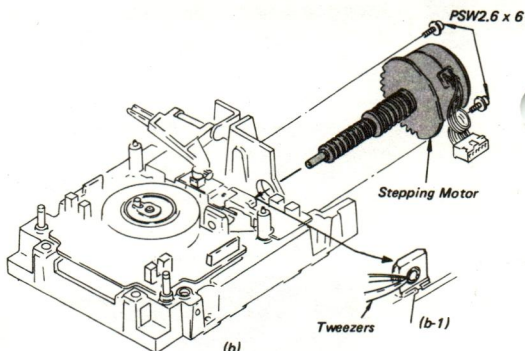

Fig. 4-13 Stepping Motor (SNS-1100A), Coupling Ass'y and Compression Spring Replacement
d. Attach the rotary knob to the rear shaft of the stepping motor with hexagon wrench torque driver. (Refer to Fig. 4-13 (a))
i. Remove the two screws (PSW2.6 x 6) which fasten the stepping motor. (Refer to Fig. 4-13 (b))
j. Turning the rotary knob, remove the lead screw ass'y. During removal, hold with the tweezers the ball bearing which hold the lead screw, as shown in Fig. 4-13 (b)-1.
b. Pressing the coupling ass'y to the lead screw, fasten the setscrew near the lead screw with a hexagon wrench torque driver. (Refer to Fig. 4-13 (a))
c. Pressing the coupling ass'y to the stepping motor, fasten the setscrew near the stepping motor with a hexagon wrench torque driver. (Refer to Fig. 4-13 (a))
d. Turning the rotary knob, pass the lead screw through the opening of the ball bearing along the path indicated by arrow. (Refer to Fig. 4-13 (b))
- c. Attach the rotary knob onto the rear shaft of the stepping motor shaft with hexagon wrench torque driver. (Refer to Fig. 4-13 (a)) Check if the gap between the motor bearing metal and rotary knob is approximately 0.5 mm.
- a. Attach the rotary knob onto the stepping motor shaft. (Refer to Fig. 4-13 (a))